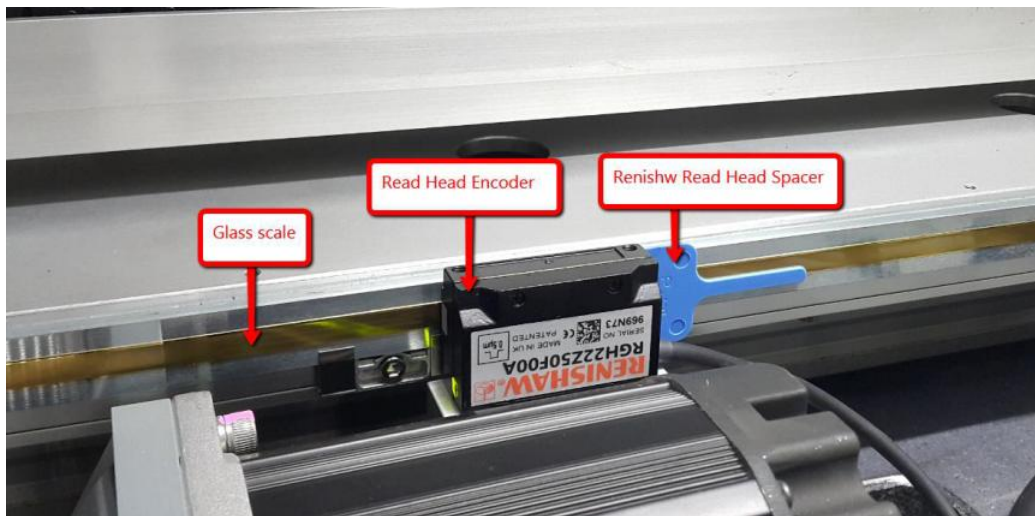

Figure 28 Read Head Alignment Spacer
23. Place the read head alignment spacer between the Read Head and the glass scale as shown in the Figure 28.